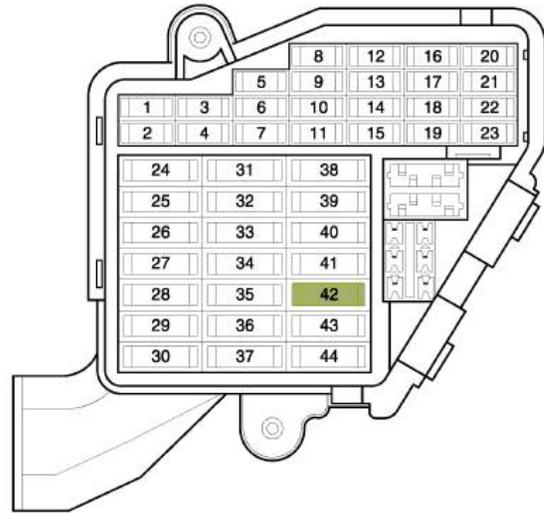

Figure 1. SB42 fuse location in A6 vehicles.
- **For A6:** Remove green 30A fuse SB42 from fuse box instrument panel left (Figure 1). Reinstall the fuse after 30 seconds.